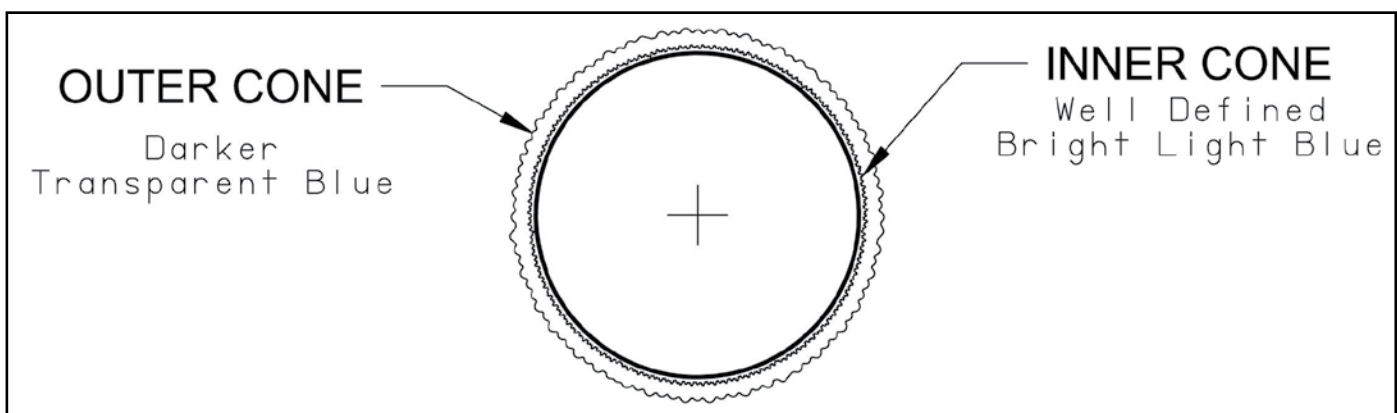

Figure 11.3: Burner Flame
- 14) Inspect the flame visible through the window. On high fire the flame should be stable and mostly blue (Figure 11.3). No yellow tipping should be present; however, intermittent flecks of yellow and orange in the flame are normal.